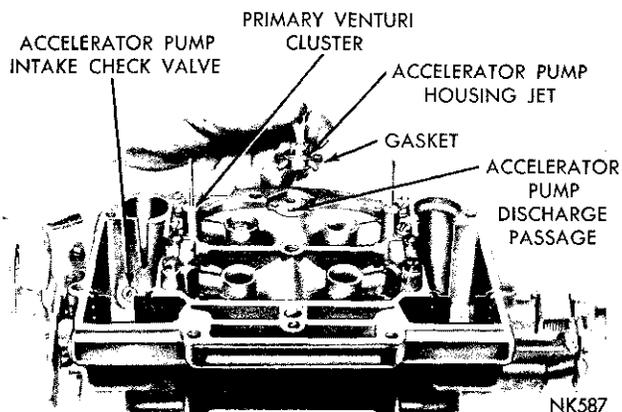

Fig. 3—Removing or Installing Accelerator Pump Jet Housing
(1) Remove the screws that attach the accelerator pump jet housing to the main body. Lift out the jet housing and gasket as shown in (Fig. 3). Discard the gasket. Now, invert the main body and drop out the discharge check needle from the discharge passage.
(2) Using Tool T109-58, remove the main metering